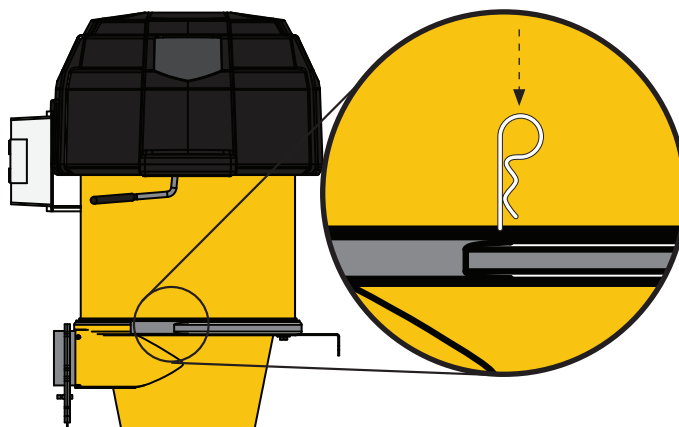

FIG. 16
Secure the Ring Clamp (D) using the Clamp's cotter pin [FIG. 16].